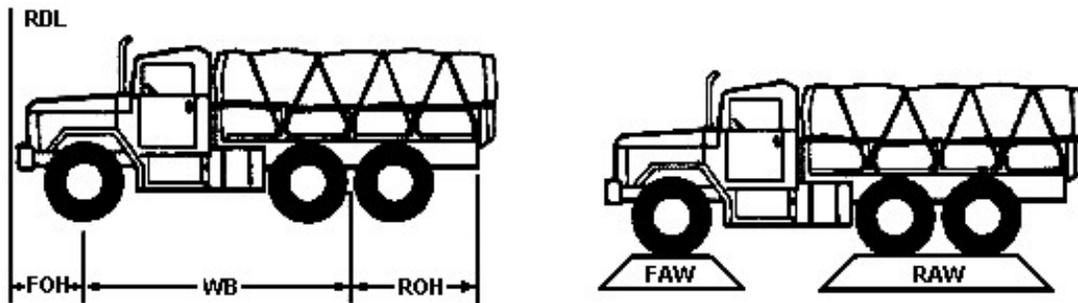

Figure 3-5
1. Identify all vehicle measurement points (see Figure 3-5).